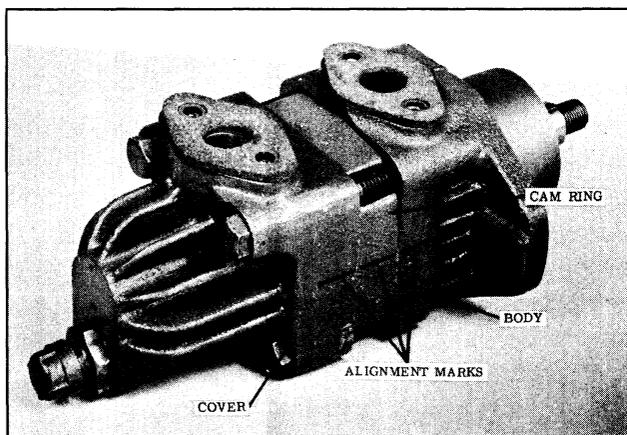

Fig. 5-73 Alignment Marks
4. Scribe alignment marks on pump body, cam ring, and cover. (See Fig. 5-73)